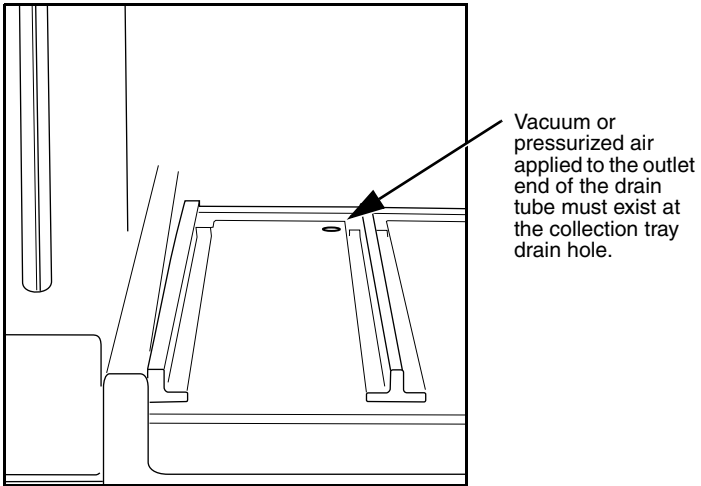

Figure 3-4 Fraction Collector Drain
1. Test the fraction collector drain by connecting a vacuum or air supply source to the outlet end of the drain tube. Then, verify the presence of such vacuum or air supply source on the drain (Figure 3-4).